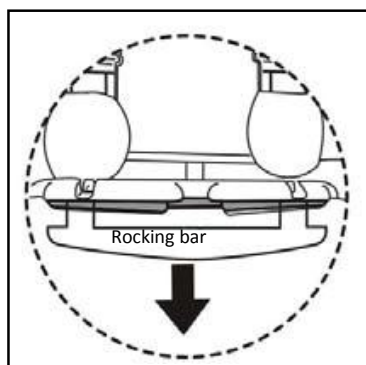

Figure 16
- Pull the rocking bar down, as per **Figure 16**.